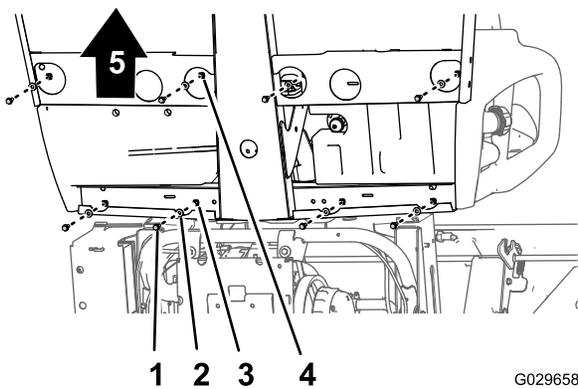
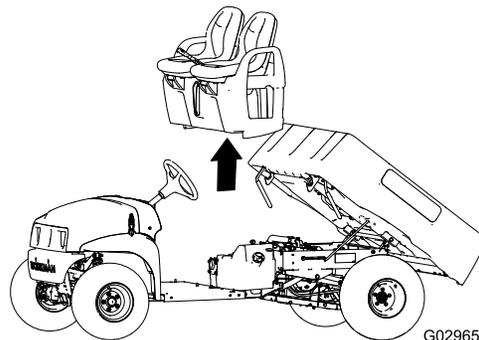

Figure 44
Figure 45
- At the bottom of the machine, remove the 8 flange-head bolts and 8 washers that secure the seat base to the floor plate and rear-cab channel (Figure 44).
- Carefully lift the seats, seat base, and parking brake cables from the machine (Figure 44).
1. Lift the seats and seat base onto the machine and align brake cables to the chassis (Figure 44 and Figure 45).
2. Align the holes in the seat base with the holes in the floor plate and rear-cab channel (Figure 44 and Figure 45).